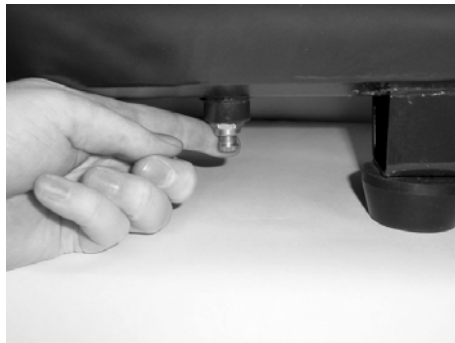

FIG. 6
- Open drain valve at bottom of air tank and drain all water before storing. (see FIG.6)